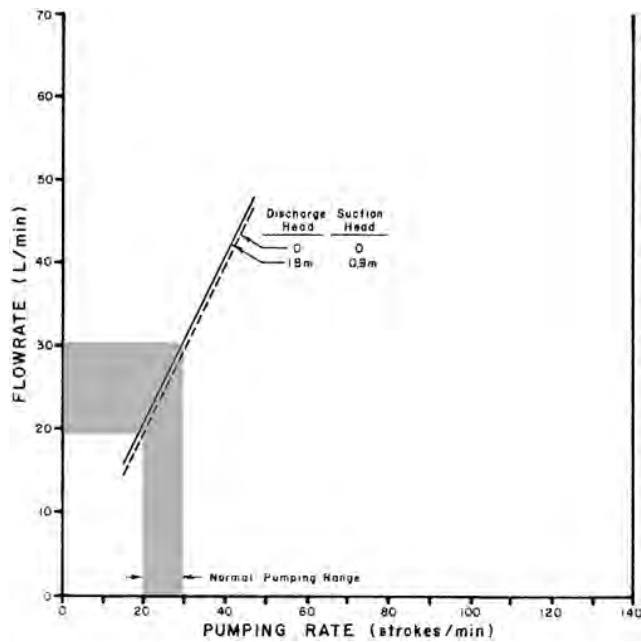

FIGURE 2. Flowrate with Diesel Fuel at Two Suction and Discharge Heads.
**Flowrate:** Pump performance characteristics with diesel fuel for two different suction and discharge heads are given in FIGURE 2. Suction head is the distance the fuel level is below the pump intake valve while discharge head is the height the outlet nozzle is held above the pump. Suction heads of 0 and 0.9 m (0 and 3 ft) correspond to full and empty levels of typical farm truck fuel storage tanks.